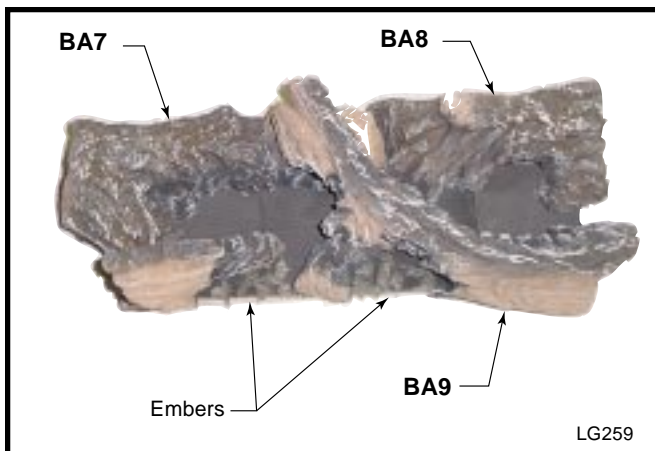

Fig. 37 H33BDVRRN/P log placement.
Refer to Figure 37
5. Place the right rear log (BA9) in position by resting the hole under the center of this log located over the knob on the branch of the rear front right log, and the front end of this log will also set against the back wall of the deflector. (Fig. 37)